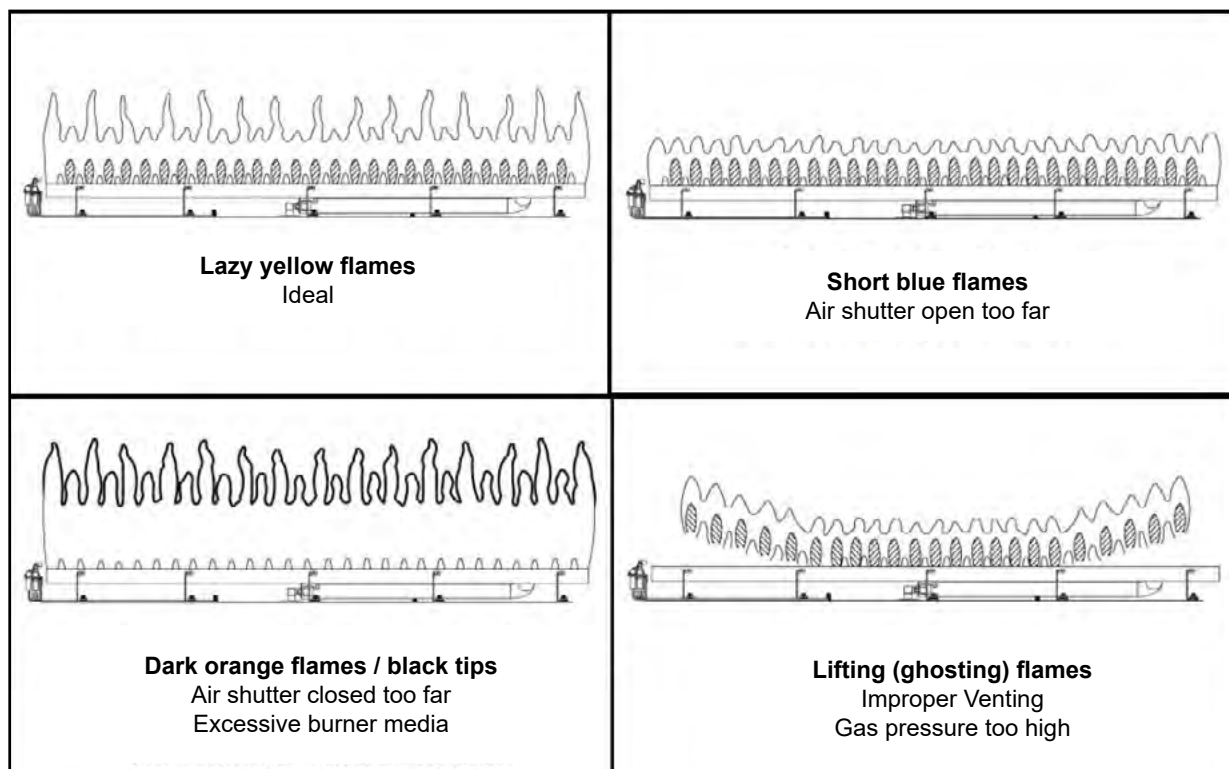
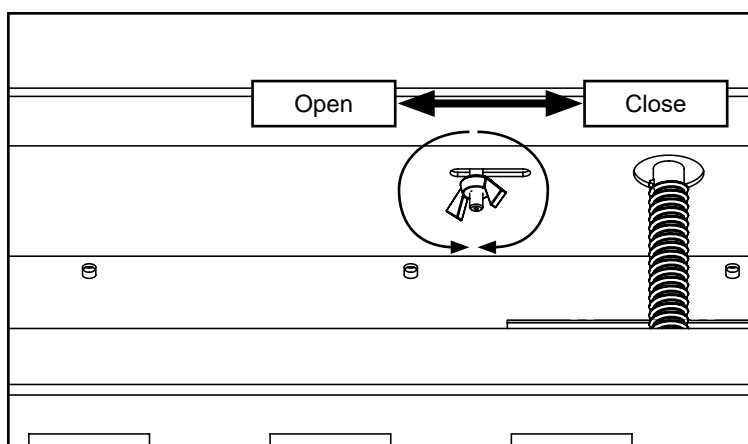

Figure 20.5.01:
Figure 20.5.02:
- Inspect and ensure the lighting of the main burner occurs within 4 seconds of the main gas valve opening. Flames should match those shown in **Figure 20.5.01**
The Perfection includes an air shutter located under the door of the fireplace which may be used to adjust the primary air to achieve the ideal flame as shown in **Figure 20.5.01**. To adjust, loosen the wing nut on the air shutter and adjust as shown in **Figure 20.5.02**. To open the air shutter and increase air flow to the burner, slide the air shutter to the left. To close the air shutter and decrease air flow to the burner, slide the air shutter to the right.